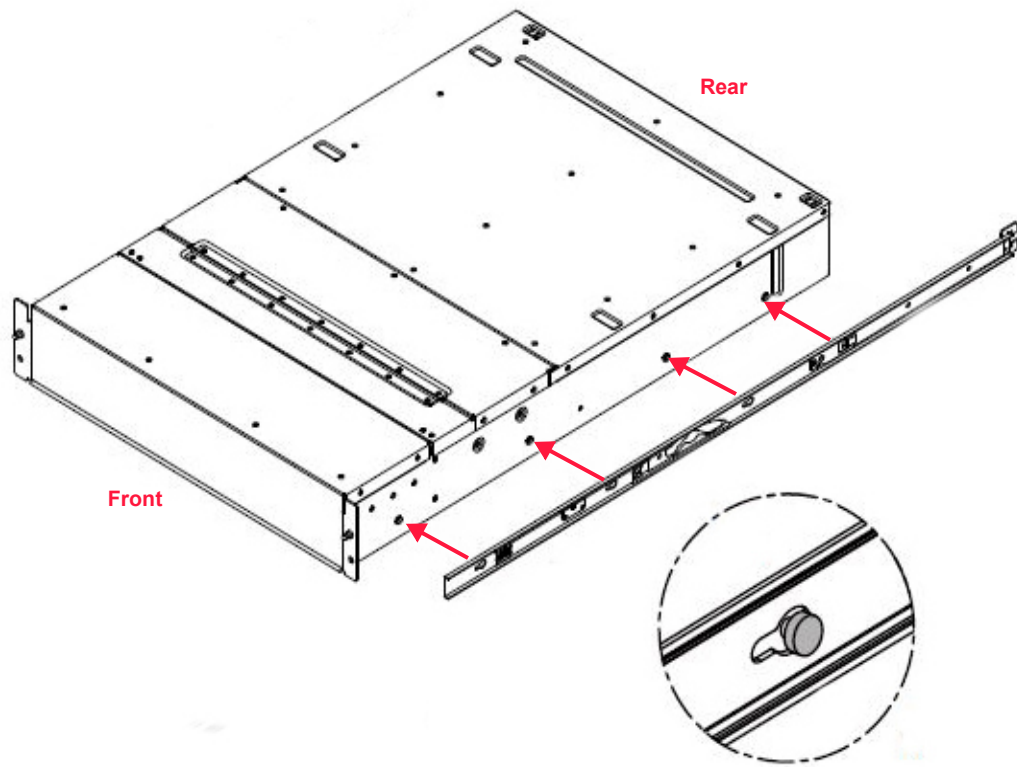

Figure 2.13 Align the standoffs with the keyholes
1. Align the large section of the keyholes on the right chassis member rail with the standoffs on the right side of the chassis as shown in Figure 2.13 on page 19.